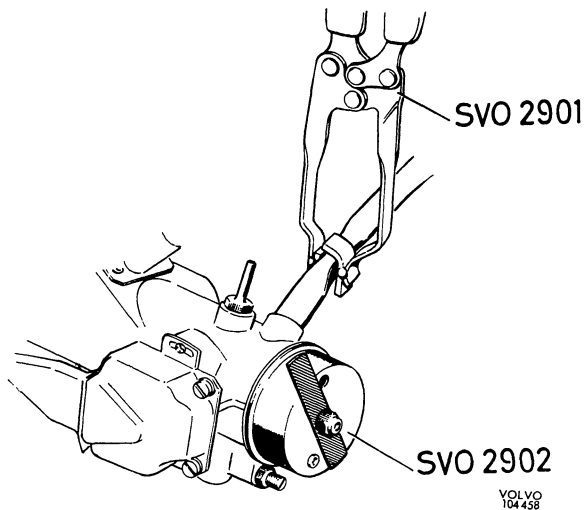

Fig. 2-97. Cover for ignition setting
3. Start the engine. Fit the plastic cover, SVO 2902, as shown in Fig. 2-97, and adjust down the speed to 700—800 r.p.m. by moving the bar across the hole in the plastic cover.